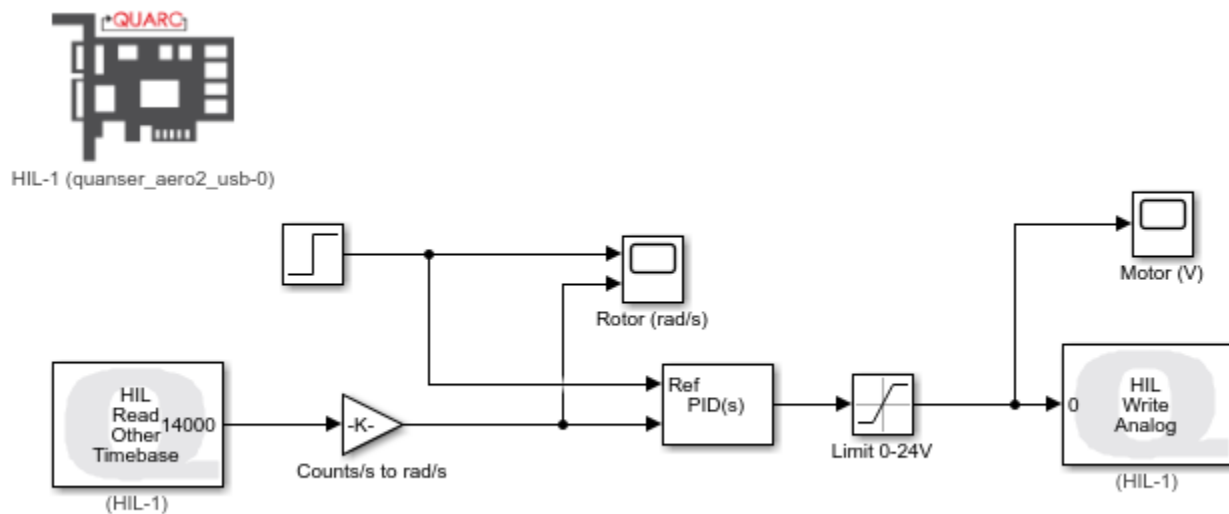

Figure 3 - Simulink/QUARC model used to run the PI control on the Aero 2.
The *q\_aero2\_rotor\_pi* Simulink model shown in Figure 3 is used with QUARC to run the PI rotor speed control on the Aero 2 system. The QUARC *HIL Write Analog* applies the controller output voltage to the front rotor motor and *HIL Read Other Timebase* block measures the rotor propeller angular speed using the digital tachometer. The reference or commanded and measured rotor speed are displayed in the *Rotor Speed (rad/s)* scope and the motor voltage is shown in the *Motor (V)* scope.